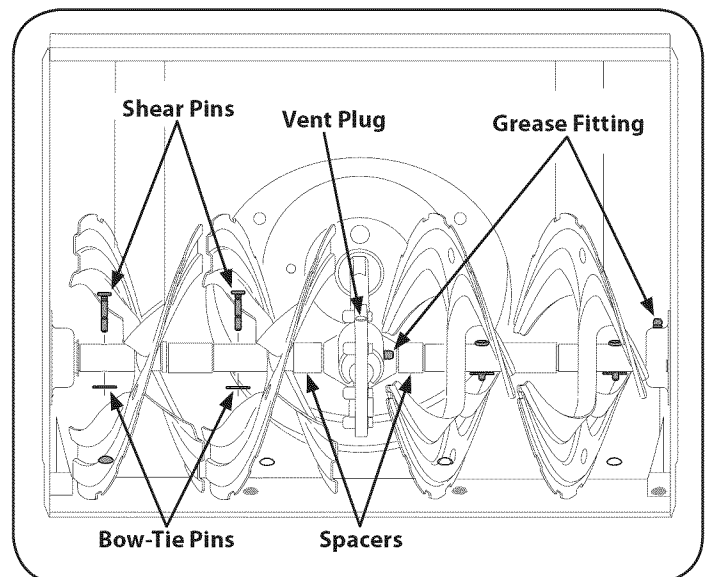

Figure 23
Grease fittings can also be found at each end of the auger shaft. Lubricate with a grease gun once a season. See Figure 23.
The auger gear case is equipped with a grease fitting. Lubricate with grease once a season (order part number 737-0168). See Figure 23.
**NOTE:** To relieve pressure, remove the vent plug before lubricating the gear case. See Figure 23. Failure to do so could result in damage to the gear case seals.
2. Replace the pins if needed. Two replacement shear pins and cotter pins have been provided with the snow thrower. Spray an oil lubricant into shaft before inserting new pins and securing with new cotter pins. See Figure 23.